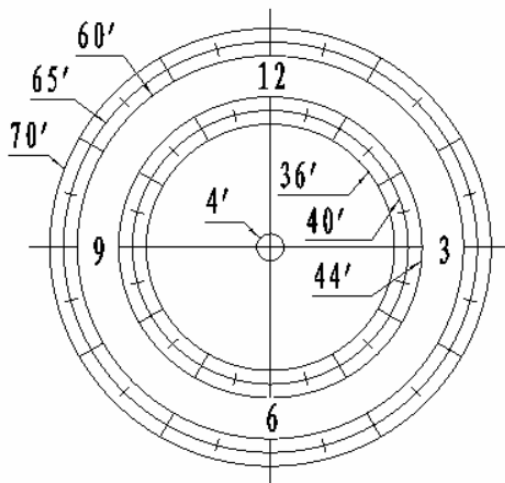
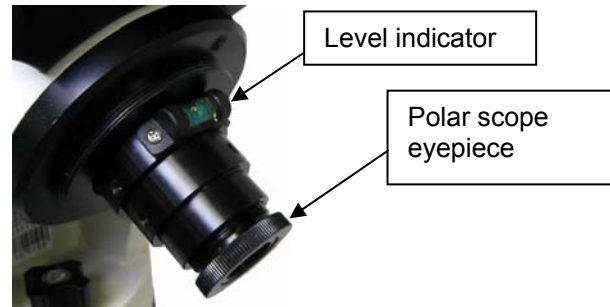

Figure 12. Polar Scope Dial
Figure 13. Polar scope with bubble level indicator
As indicated in Figure 12, the Polar Scope Dial has been divided into 12 hours along the angular direction with half-hour ticks. There are 2 groups, 6 concentric circles marked from 36' to 44' and 60' to 70', respectively. The 36' to 44' concentric circles are used for polar alignment in northern hemisphere using Polaris. While the 60' to 70' circles are used for polar alignment in southern hemisphere using Sigma Octantis.
During initial setup of the iEQ™ mount, it is likely that the viewing hole on the DEC axis of the polar scope may be blocked by the DEC axle. The Polar Scope Dial in the polar scope may not be set at the normal clock position with 12 located at the top, as shown in Figure 12. Before doing the Quick Polar Axis Alignment, complete the following steps:
- (1) Take off both the Polar Axis Cover and the Polar Scope Cover from the mount.
- (2) Remove the protection tape on the threaded hole located on the Polar Scope. First, thread the dark field illuminating LED end into the threaded hole and then plug the other end into the Reticle socket located on the R.A. unit. The illumination intensity can be adjusted using the hand controller (HC) via the **"Set Eyepiece Light"** function under the **"Set Up Controller"** menu.
- (3) Use the ▲ or ▼ button to turn the DEC axle to unblock the Polar Scope view.
- (4) Adjust polar scope eyepiece shown in Figure 13 to bring the polar scope dial in focus.
- (5) To rotate the Polar Scope to align the 12 position of the dial on the top, as shown in Figure 12, release the four R.A. clutch screws while holding the OTA, then turn the R.A. drive using HC's ◀ or ▶ button (press 9 button to change the rotation speed to MAX). PLEASE remember to hold onto the OTA or it could swing. If your Polar Scope is equipped with a bubble level indicator, as shown in Figure 13, simply make sure the bubble is in the middle.